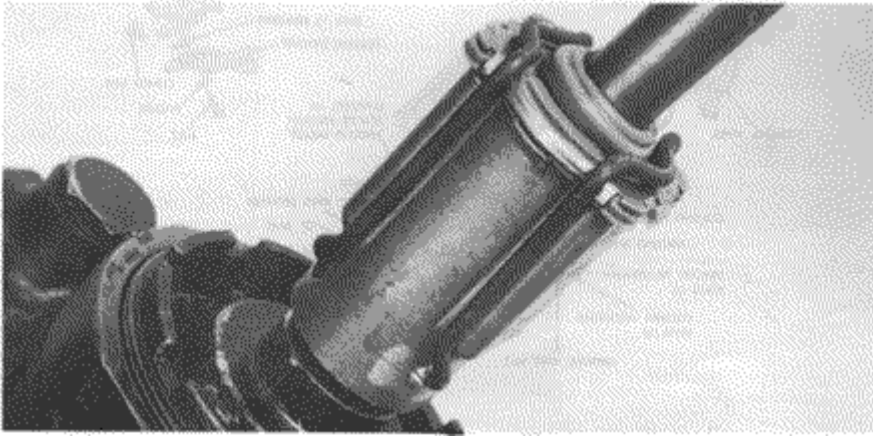

FIGURE 6: STEERING COUPLING CLAMP IN POSITION
5. Place each leg end into the ends of the roll pin making sure the ends are fully seated into the roll pin. (Figures 6 & 7) In addition to the clamp being serviced separately, it will be incorporated in the coupling repair package Part Number 3420152 for manual steering, and Part Number 3420153 for power steering.